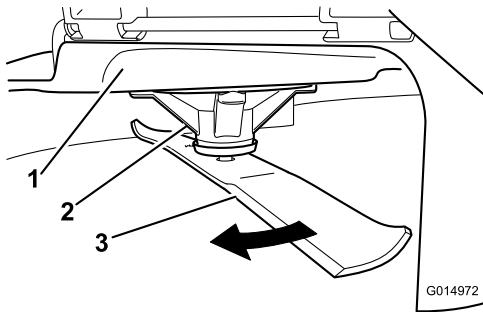

Figure 103
2. While wearing thickly padded gloves, or other adequate hand protection, slowly rotate the blade into a position that allows you to measure the distance between the cutting edge and the level surface the machine is on (Figure 103).